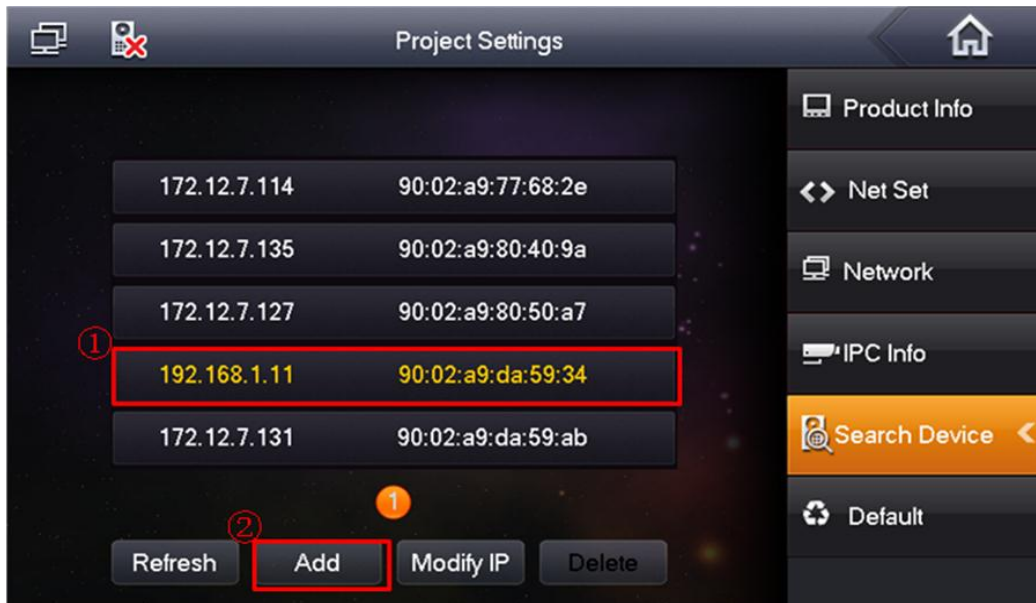

Figure 2-15
c) Click Add to add VTO settings. See Figure 2-15.